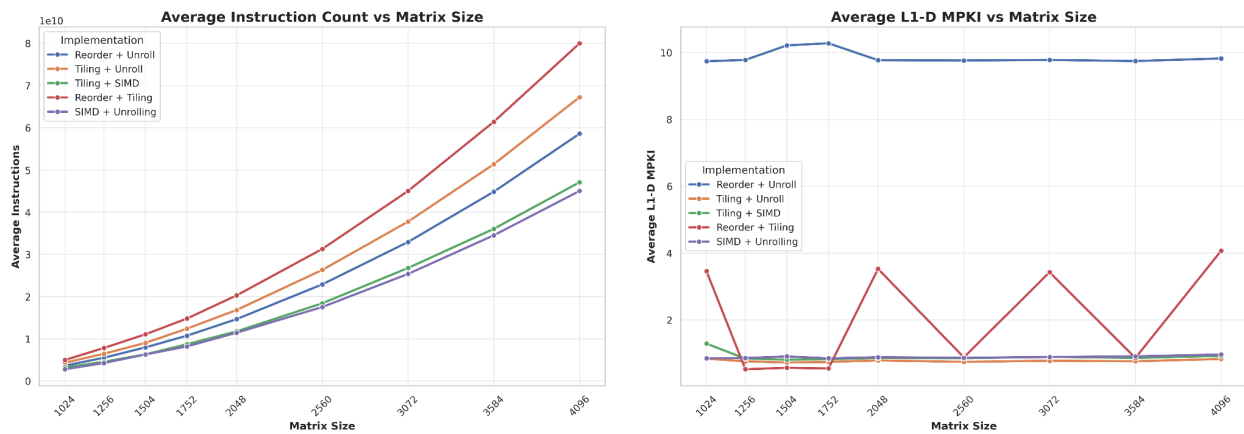

Figure 5.3
- **Observations:** As shown in Figure 5.3, **SIMD + Unrolling** and **Tiling + SIMD** execute the lowest number of total instructions across all matrix sizes. Conversely, **Reorder + Tiling** yields the highest instruction count.